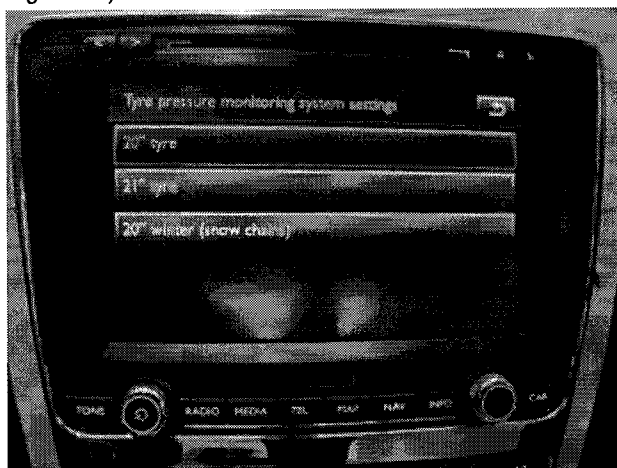

Figure 25
28. The tyre type screen will now display, and if required allow the selection of, the new winter tyre option. In the example, figure 25, 20" winter (snow chains) is offered as a selectable option as a result of inputting 5 into channel 143 during operation 9 (see Figure 26)